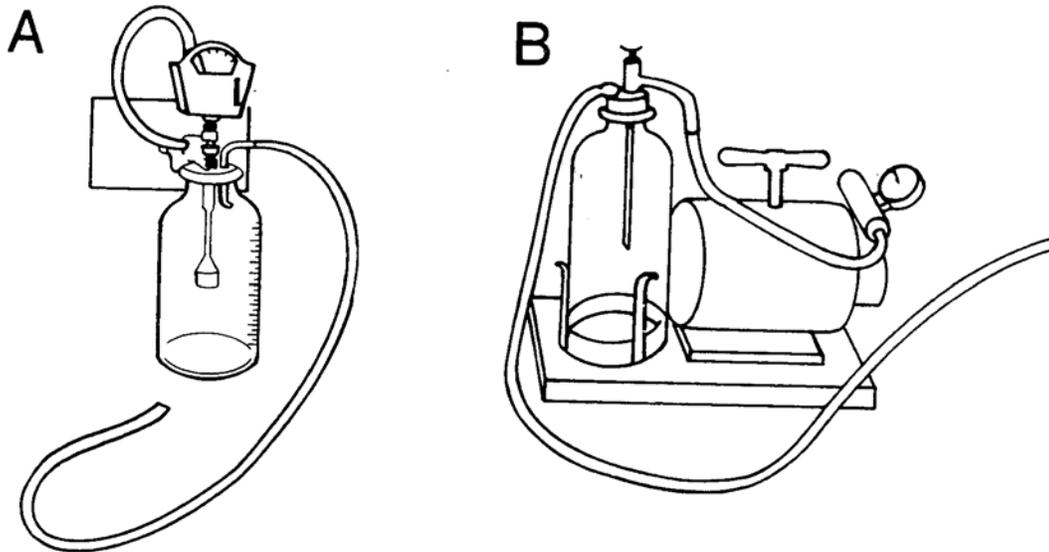

Figure 4-1. Suction apparatus. A Wall (fixed) unit. B Portable unit.
(2) Suction apparatus. Suctioning of the airway requires a source of vacuum. Most hospitals that have piped-in oxygen also have a piped-in vacuum source. When a piping system is not available, portable suction units must be used. Most portable suction used in hospitals units must be connected to an electrical source. Many portable units designed for field use, however, obtain their power from compressed gas (air, oxygen, or Freon) cylinders and do not need electrical power. Figure 4-1 shows two types of suction devices.